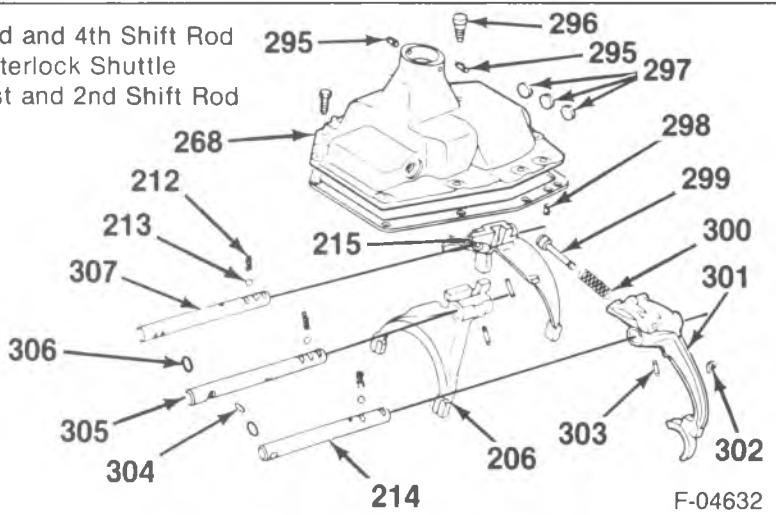

Figure 50—Shift Cover and Components
Disassemble (Figure 50)
Clean (Figure 50)
Inspect (Figure 50)
**Assemble (Figure 50)**